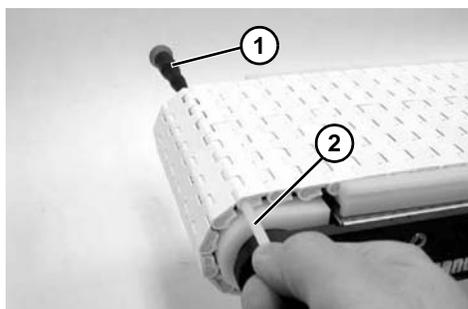

Figure 44
2. Insert screwdriver (Figure 44, item 1) into one side of belt, pushing rod (Figure 44, item 2) out. Remove rod and separate belt.